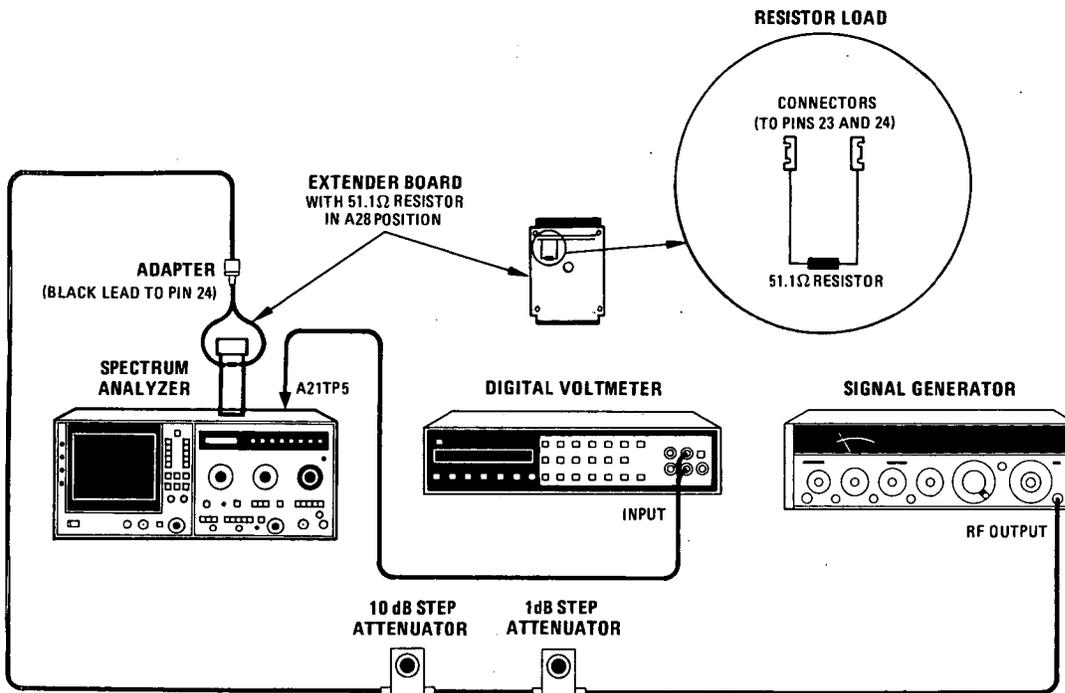

Figure 5-22. Step Gain Adjustment Test Setup
2. Connect 51.5-ohm resistor between pins 23 and 24 on extender board (Figure 5-22). Remove A28 Variable Gain Amplifier and install extender board in its place. (Do not install A28 on extender board.)
3. Reconnect power cord, set LINE switch ON, and connect equipment as shown in Figure 5-22.